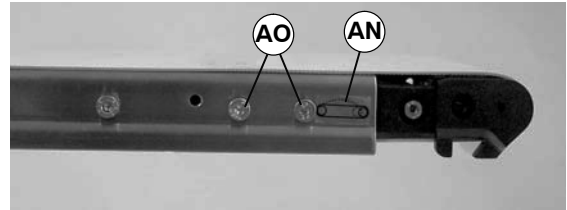

Figure 21
6. On tension end of the conveyor identified with a  label (AN of Figures 21 and 22), loosen two M6 socket head cap screws (AO) on each side of conveyor.
10. On tension end of the conveyor identified with a  label (AN of Figures 21 and 22), loosen two M6 socket head cap screws (AO) on each side of conveyor.
11. On tension end of the conveyor identified with a  label (AN of Figures 21 and 22), loosen four M6 low head screws (AO).
- Tighten four M6 low head screws (AO of Figures 21 and 38) to 40 in-lb (4.5 Nm) to secure idler spindle assembly (AP).